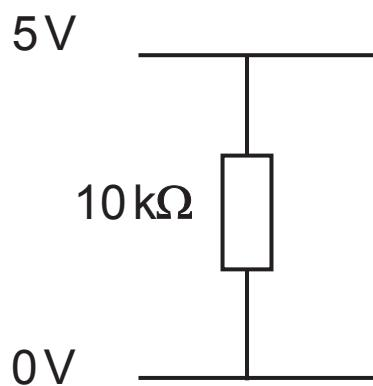
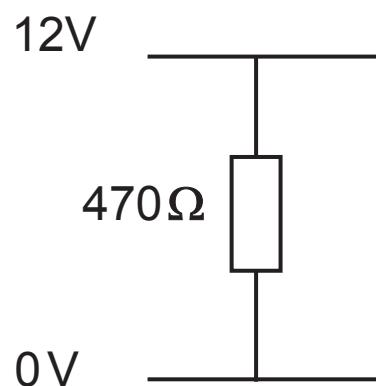

Fig. 1
Fig. 2
- (ii) Use Ohm's Law to calculate the current which goes through the resistor shown in Fig. 1 and the resistor shown in Fig. 2. [2 marks for each current]
Current Fig. 1 _____
Current Fig. 2 _____